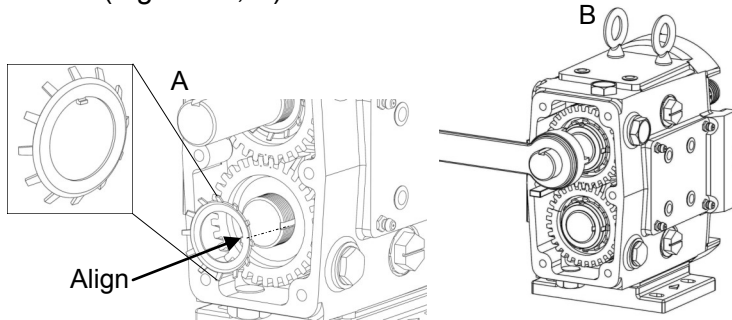

Figure 52: Installing Lock Washer and Lock Nut
9) Install the lock washers on the shaft by aligning the tab inside the lock washer with the slot in the shaft (Figure 52, A). Lubricate the threads of the lock nuts and thread them on the shafts. Using a spanner wrench, tighten them to the specified torque in Table 6. Use a wedge (wood or plastic) between the gear teeth to keep the shafts from turning while tightening the lock nuts (Figure 52, B).